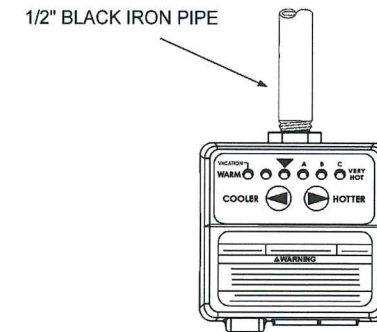

FIGURE 6.
9. Thread a straight section of 1/2 inch diameter pipe into Intelli-vent™ Thermostat Control, (183760 Series), see Figure 6.